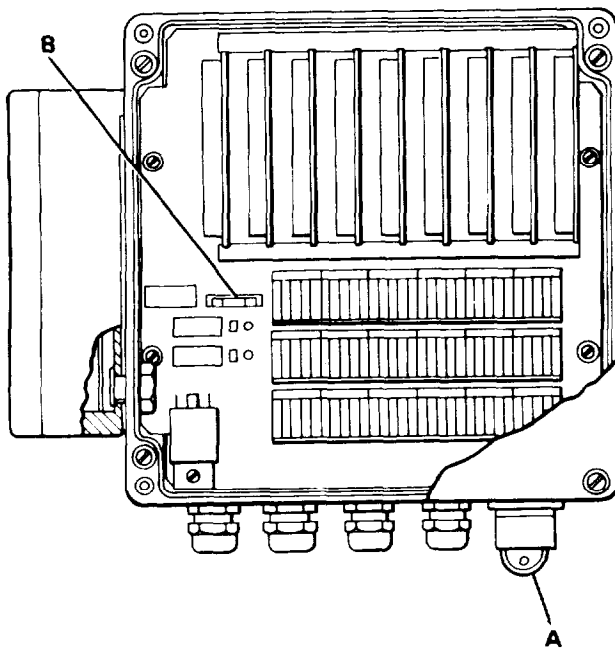

Figure 2-13. Central Unit
**CENTRAL UNIT** The central unit consists of the standard elements (main printed circuit board, fuse, sockets, etc. and the vertical programmed P.C. boards. It also contains the following items (Figure 2-13):